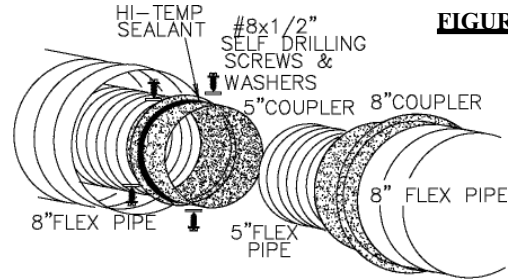

FIGURE 22
8. If more liner needs to be used to reach the fireplace, couple them together as illustrated in Figure 22. The vent system must be supported approximately every 3 feet for both vertical and horizontal runs. Use noncombustible strapping to maintain a clearance to combustibles of 1".